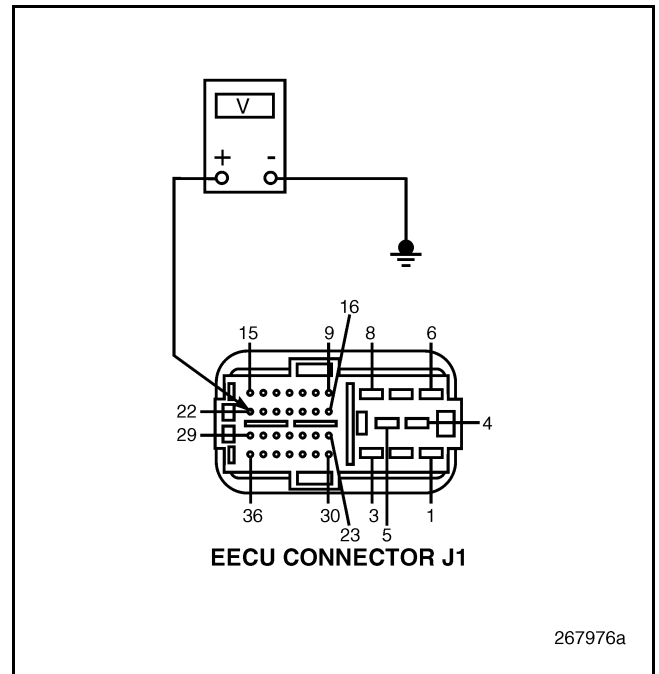

Figure 461
4. Measure the voltage between EECU connector J1 pin 22 and a good ground (see Figure 461).